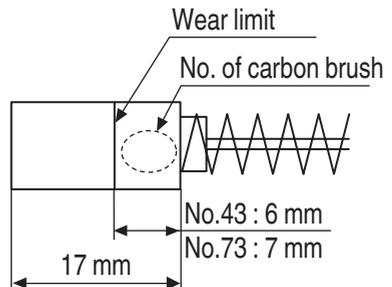

Fig. 19
4. Inspecting the carbon brushes: (Fig. 19)